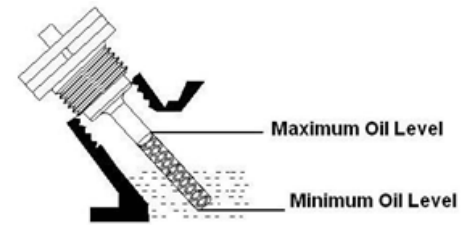

Fig. 18 - Oil Fill Opening, Dipstick and Oil Level
3. Slowly add more oil and repeat step 2 until the oil mark reaches to the top of dipstick (Fig. 18). Do not over fill the crankcase.